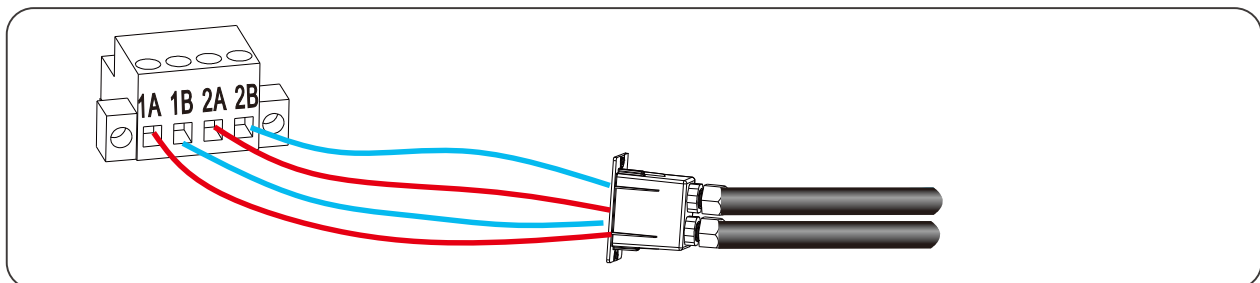

Figure 5.20 RS485 Terminal block connection
**Step 4** Connect RS485 differential positive and negative signal of data logger to terminal 1A and 1B of the inverter, and connect terminal 2A and 2B of the inverter to terminal 1A and 1B of another inverter, as shown in Figure 5.20.